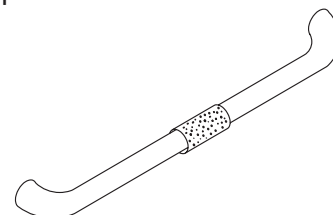

Figure 28
8. Install foam grip on lid handle. **See Figure 28.**